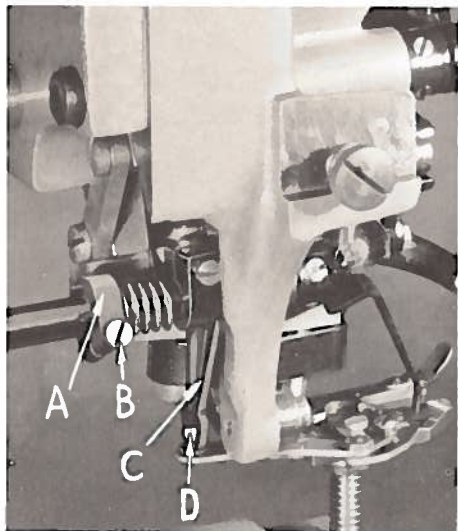
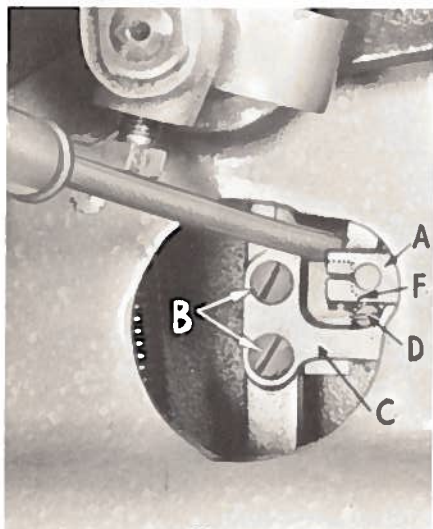
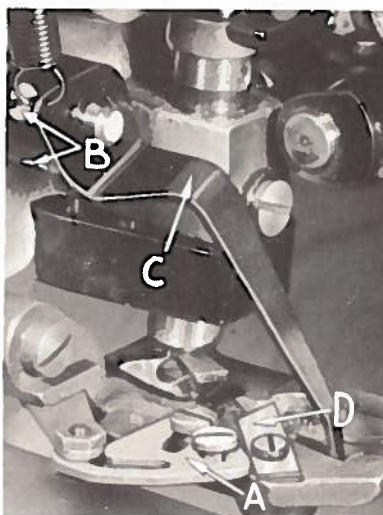

Fig. 12
Fig. 14
Fig. 13
Rotate the spring collar (A, Fig. 12), and tighten binding screw (B) when collar has been turned about 45° from zero tension.
With thread cutting finger (A, Fig. 13) at the back of its travel, set the trimmer lever (C, Fig. 12) so that it is over the center of the ball (D) from front
Check position of thread wiper crank (A, Fig. 14) through the access hole at the back of the machine. With the machine in stop position, this crank should be horizontal or slightly below to the right. If the crank is not in this position, loosen the two set screws (B, Fig. 13) in the thread wiper finger (C). Return to the back of the machine, and loosen the two screws (B, Fig. 14) in the cam plate (C), and move the crank (A) to the desired position. Now, slightly tighten one screw in the thread wiper finger (C, Fig. 13).
position to hold the crank (A) horizontally as previously described. Now, return to the thread wiper finger (C, Fig. 13), and check its position.
The screw stud in the crank (D, Fig. 14) should rest against the lower edge of the cam lobe (E) and against surface of the cam below the lobe. To do this, insert a screw driver through the opening in the cam plate, and using it as a lever, apply downward pressure to the cam while tightening the two screws (B) and maintaining the cam plate (C) in its proper
The thread cutting knife (D, Fig. 13) should be set forward in its slot enough to provide proper cutting action.